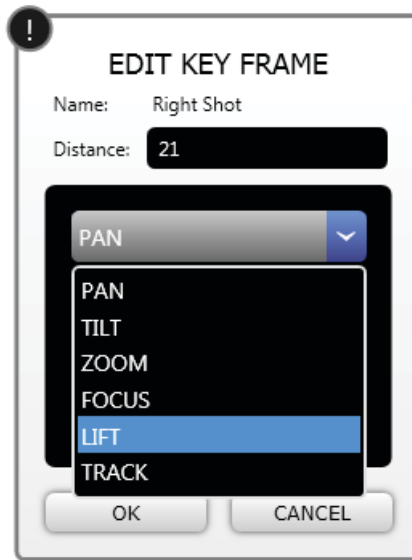

Figure 46 - EDIT KEY FRAME Dialog Box with Axis List Expanded
- a. In the axis list, select a linear axis (Figure 46).